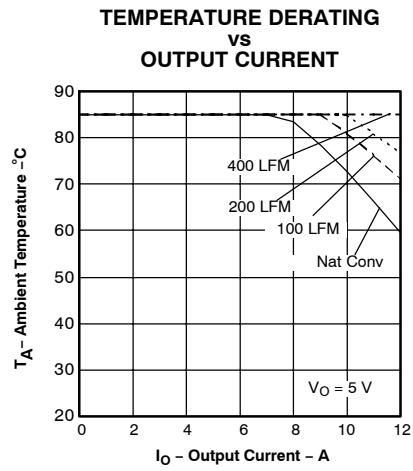
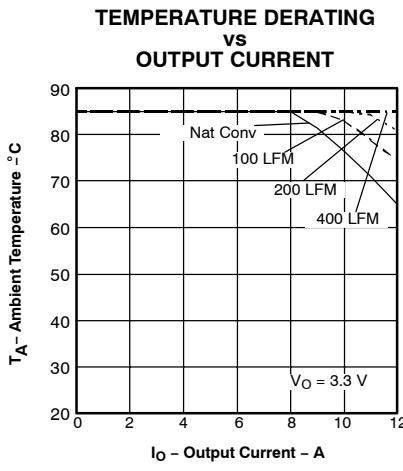
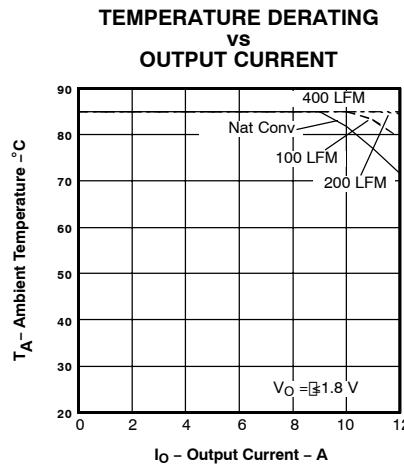

Figure 4.
Figure 5.
Figure 6.
(22) The temperature derating curves represent the conditions at which internal components are at or below the manufacturer's maximum operating temperatures. Derating limits apply to modules soldered directly to a 4 inch × 4 inch double-sided PCB with 2 oz. copper. For surface mount packages (AS and AZ suffix), multiple vias (plated through holes) are required to add thermal paths around the power pins. Please refer to the mechanical specification for more information. Applies to Figure 4, Figure 5, and Figure 6.